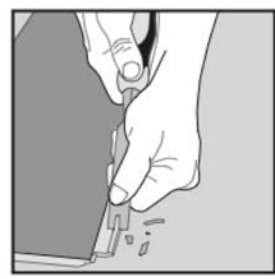
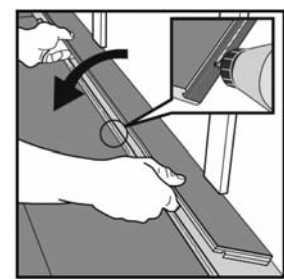
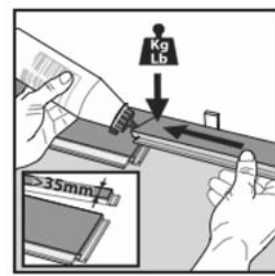

Fig. 8
Fig. 9
Fig. 10
- When working under doorjamb or cabinets, there will not be enough clearance to achieve the 45° angle required to engage the sides. In these situations, cut away the locking element using a wood chisel (Fig. 8) and glue the boards together with wood glue (Fig. 9). The boards in the last row will need to be cut to the necessary width and glued together as well, at both the side and end joints (Fig. 10). Apply weight as needed until the adhesive has set. Remember to always leave 1/2" expansion space between the last row and any vertical surface such as pipes or posts.